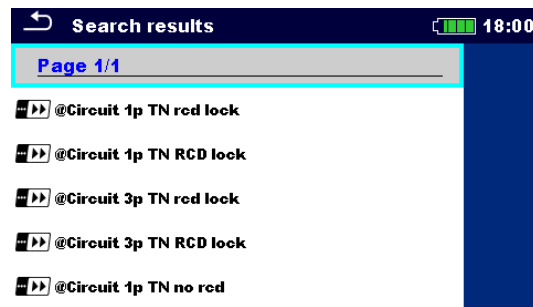
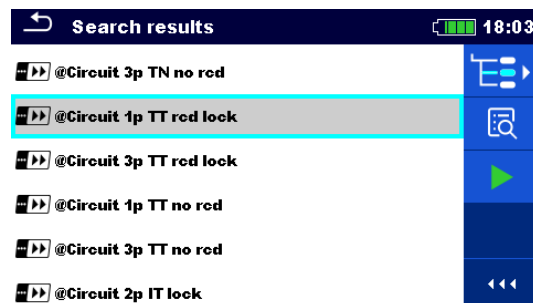

Figure 8.2: Search results screen – Page view
Figure 8.3: Search results screen with Auto Sequences® selected
- ①  Search function is available from the Auto Sequences® header line.
- ②  Select Search in control panel to open Search setup menu.
- ③  The parameters that can be searched for are displayed in the Search setup menu.
- ③a  The search can be narrowed by entering a text in the Name and Short code fields. Strings can be entered by using the on-screen keyboard.
- ③b  Clears all filters.
- ④  Searches through the Auto Sequences® menu according to the set filters. The results are shown in the Search results screen presented on **Figure 8.2 and Figure 8.3**.